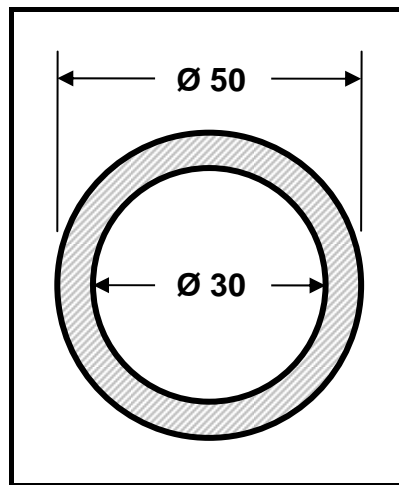

FIGURE 1.4
- 1.12 As shown in FIGURE 1.4, determine what the stress in a hollow pipe with a 50 mm outside diameter and a 30 mm inside diameter will be if a load of 80 N is applied.